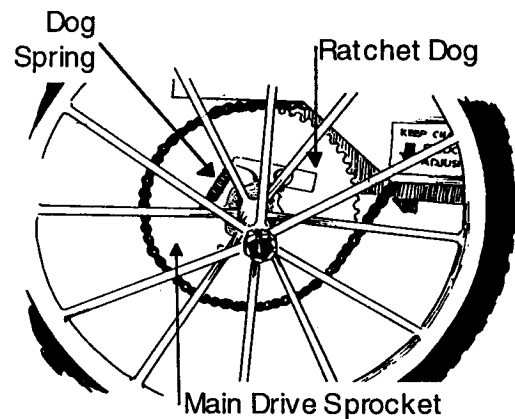

Figure 19
If either wheel does not engage, check to see that the dog springs connected to each side of the main drive sprocket are attached to the ratchet dogs (*Figure 19*).
3. Position the new chain up and around the drive box sprocket, then around the main drive sprocket (*Figure 19*).